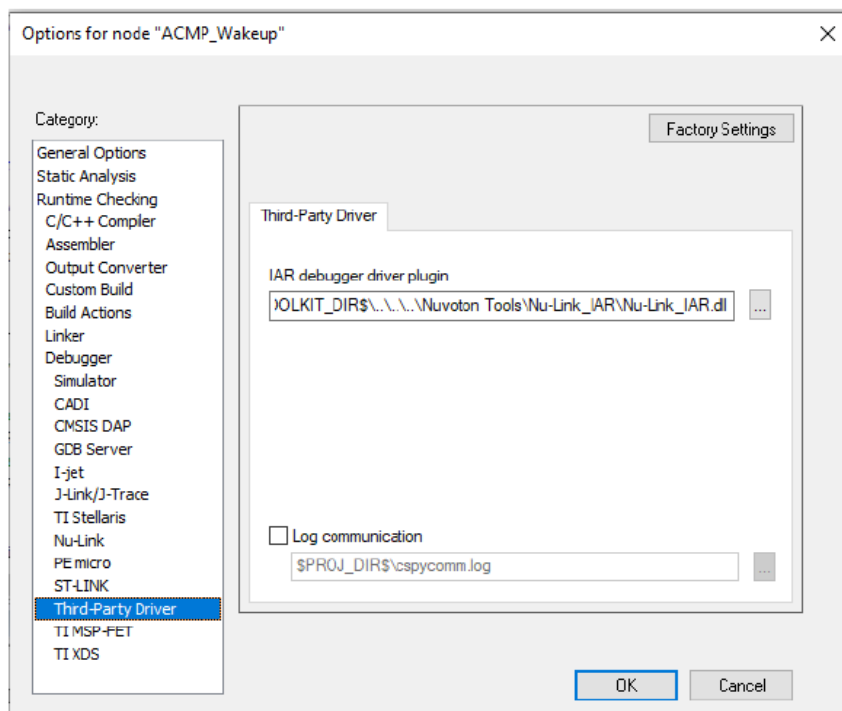

Figure 4-19 Set the Path of the IAR EWARM Debugger Driver Plugin
Step 7: In the Third-Party Driver page, specify the path of the IAR debugger driver plugin "C:\Program Files\Nuvoton Tools\Nu-Link_IAR\Nu-Link_IAR.dll", as shown in Figure 4-19.